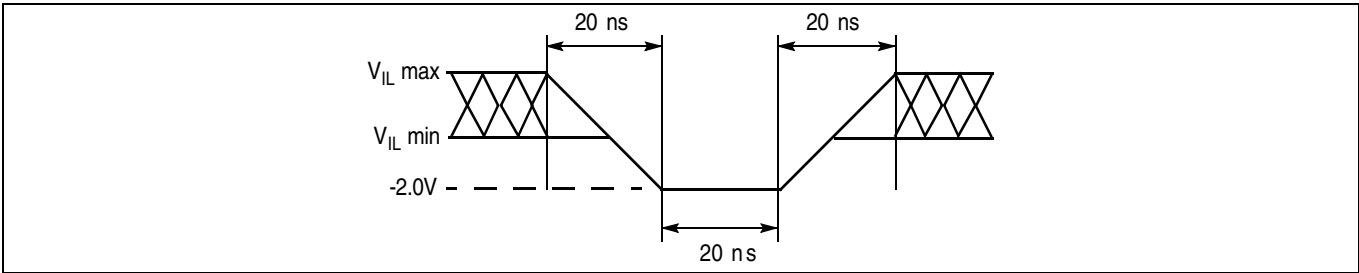
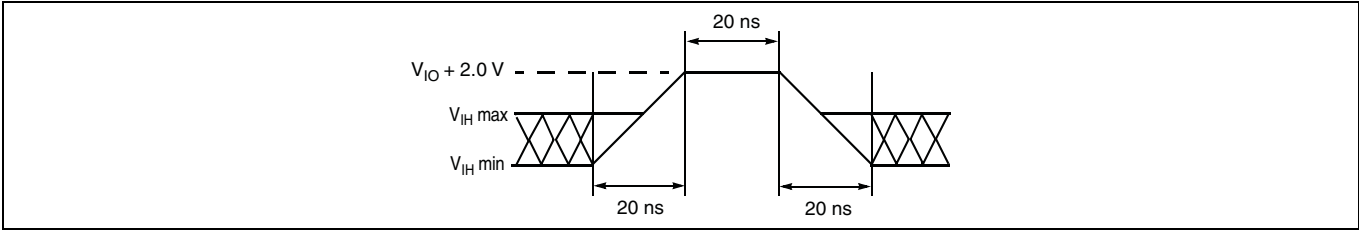

Figure 11 Maximum negative overshoot waveform
Figure 12 Maximum positive overshoot waveform
98. Minimum DC voltage on input or I/O pins is –0.5 V. During voltage transitions, input or I/O pins may undershoot V_{SS} to –2.0 V for periods of up to 20 ns. See Figure 11. Maximum DC voltage on input or I/O pins is $V_{CC} + 0.5$ V. During voltage transitions, input or I/O pins may overshoot to $V_{CC} + 2.0$ V for periods up to 20 ns. See Figure 12.